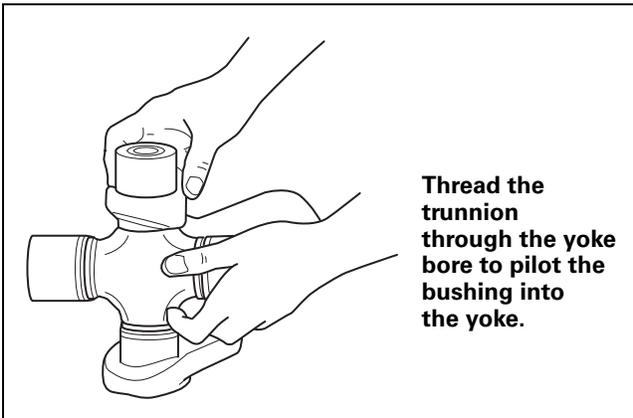

Figure 8.27
5. Position the second bushing onto the trunnion by threading the cross through the yoke bore as shown. Figure 8.27.